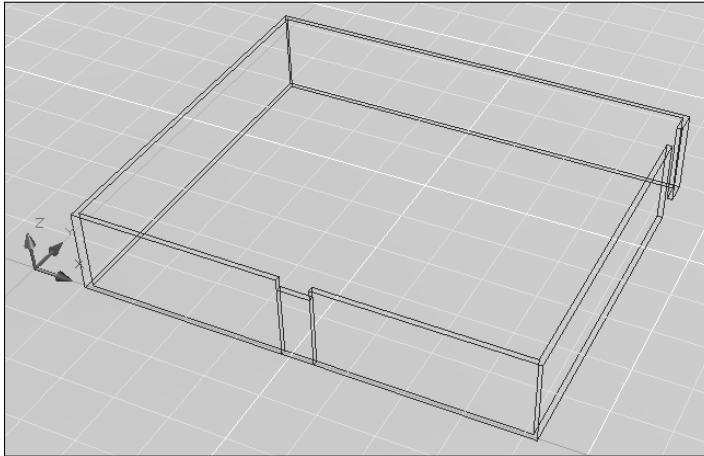

**Figure 24-17:** The polysolid walls with a door and a gap.
9. Save your drawing. It should look like Figure 24-17. If you want, add a polysolid over the front door and rotate the front door to open it. You should also change the DELOBJ system variable back to its original value.